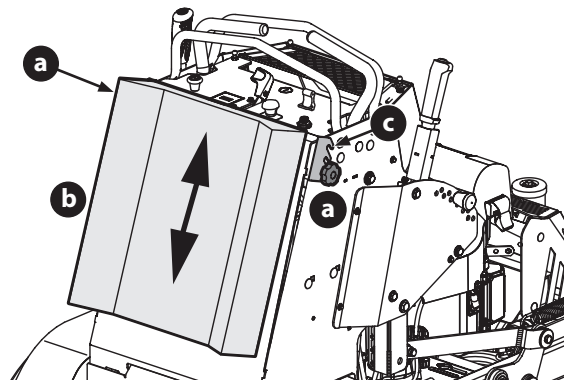

Fig. 6
- Loosen the two star knobs (a) securing the leg pad (b) to the mower (Fig. 6).
- Reposition the leg pad into one of three height positions (c) (Fig. 6).